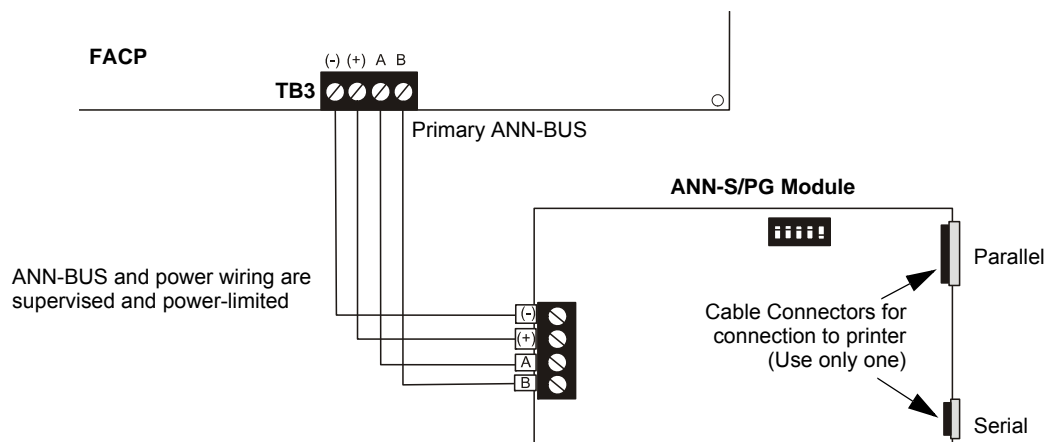

Figure 2.21 ANN-S/PG Connection to FACP
2. Connect the ANN-S/PG to the FACP as illustrated in Figure 2.21.
5. Connect a printer to the ANN-S/PG Parallel or Serial connector (refer to Figure 2.21 on page 42).